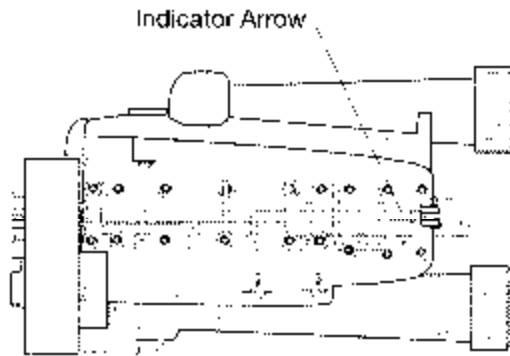

Figure 16
3. Align the indicator arrow on the rear of the camshaft with the top of the rear hoop of the top plate (Figure 16).